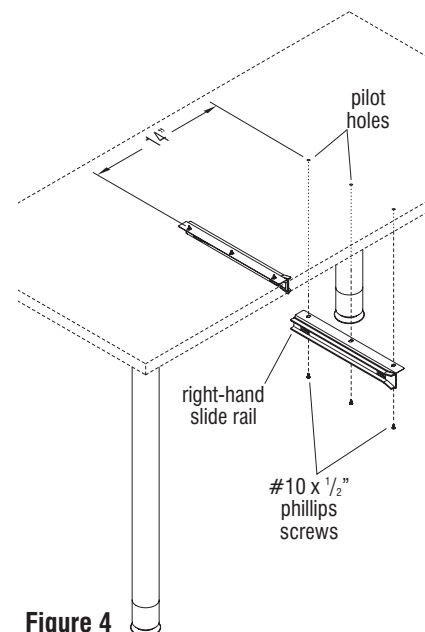

Figure 4
12. Position the second slide rail unit straight under the tabletop, centering the mounting holes over the pilot holes and secure using three #10 x $\frac{1}{2}$ " Phillips screws. Take care to not over-tighten (Figure 4).